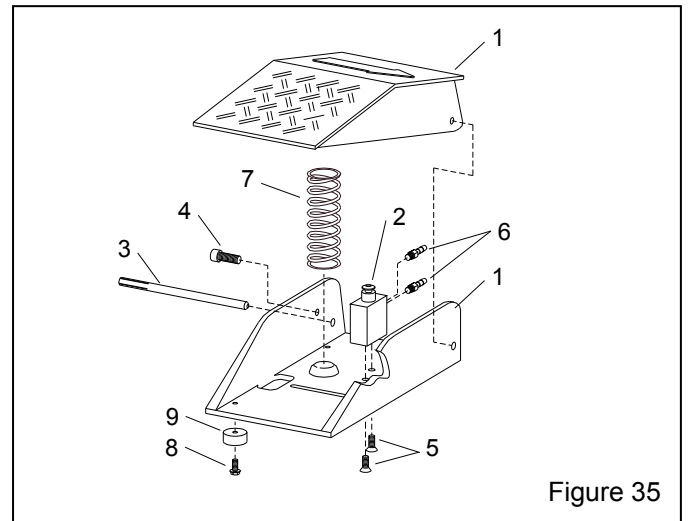

Figure 35
9.6 Foot Pedal Assembly, Figure 35